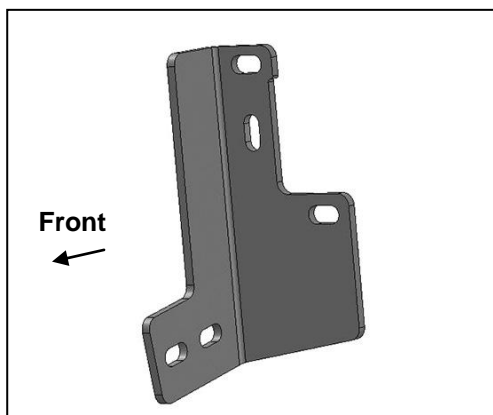
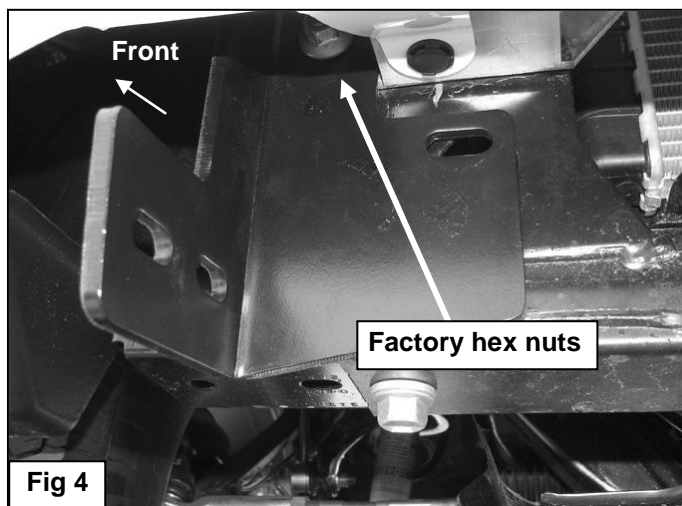

Fig 3 Passenger/right frame Bracket
Fig 4
3. Select the passenger side frame mounting bracket, (**Figure 3**). Slide the Bracket over the (2) threaded studs. Secure the Bracket to the studs with the factory hex nuts, (**Figures 4 & 9**). Leave hardware loose at this time.